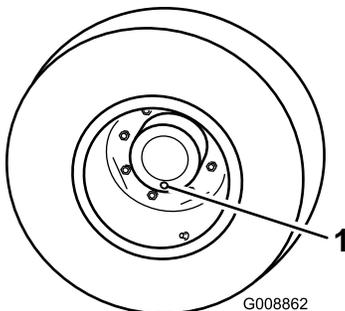

Figure 73
1. With the machine on a level surface, position a wheel so a check plug is at the lowest (6 o'clock) position (Figure 73).